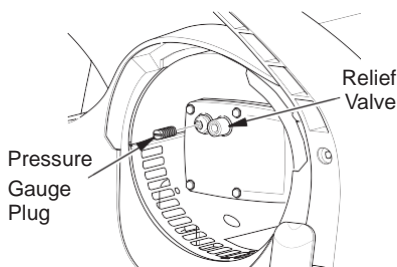

Figure 11 - Pressure Gauge Plug Removal
2. Remove pressure gauge plug from filter end cover (see Figure 11).